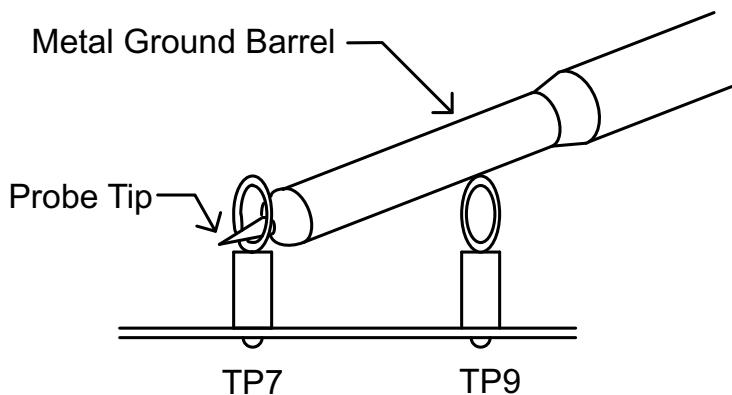

Figure 5-1. Tip and Barrel Measurement for VOUT Ripple
- Oscilloscope** A digital or analog oscilloscope measures the output ripple. The oscilloscope must be set for the following: 1-MΩ impedance, 20-MHz bandwidth, AC coupling, 1-μs / division horizontal resolution, 20-mV / division vertical resolution. Test points TP7 and TP9 measure the output ripple voltage by placing the oscilloscope probe tip through TP7 and holding the ground barrel on TP9 as shown in Figure 5-1. Using a leaded ground connection can induce additional noise due to the large ground loop.